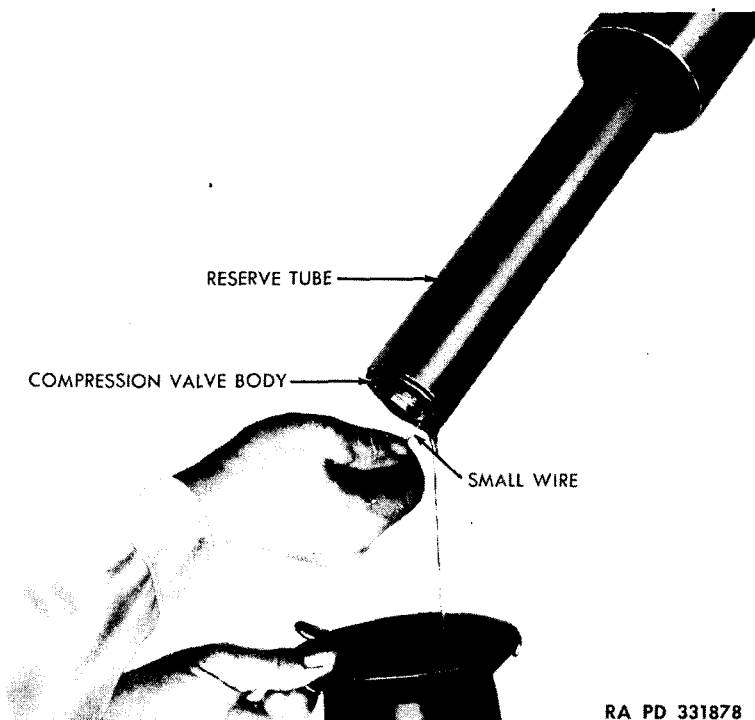

Figure 28. Removing oil from reserve tube.
(2) *Remove cylinder and compression valve.* Push a small pin through one of the holes in the compression valve body to lift the intake valve off its seat slightly, and drain the fluid out of the cylinder (fig. 28).